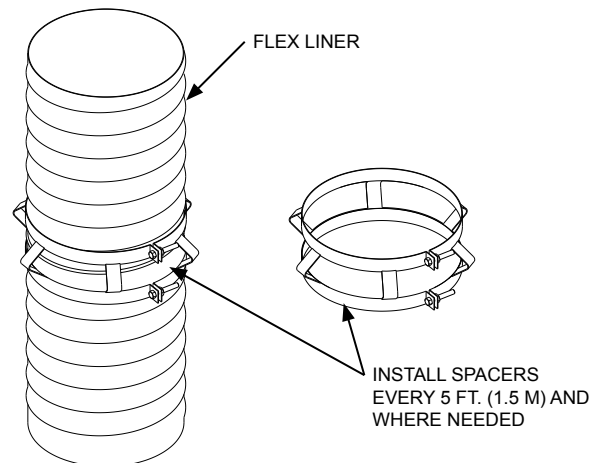

FIG. 8
- Step 3:** Remove flex liner from packaging and straighten coiled liner. If liner is to be insulated see **Liner Preparation Instructions**. If liner is not to be insulated, **Spacers will need to be installed every 5 foot (1.5 m) of liner to maintain the 1" (25 mm) clearance required between liner and masonry** (See **FIG. 8**).